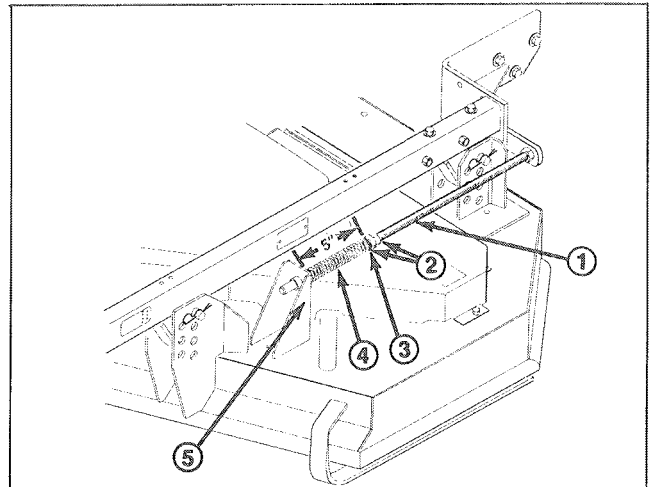

Figure 5
2. Thread (2) jam nuts onto each adjusting shaft (approximately 7 inches) (Fig. 5).
3. Slide a washer, spring and bushing onto each adjusting shaft. Bushing to be positioned so flange end is against spring (Fig. 5).
4. Insert spring end of each adjusting shaft into hole in deck mounting bracket and other end of shaft into hole in carrier frame mounting tab. Small end of bushing to fit into hole in deck bracket (Fig. 5).
5. To tension belt, tighten front jam nut on each adjusting shaft until springs are compressed to a length of 5", measured between washer and bushing (Fig. 5). Secure rear jam nuts.
The height-of-cut is adjustable from 1 to 4 inches (25 to 102 mm) in 1/2 inch (13 mm) increments by relocating four clevis pins in different hole locations in brackets at each corner of the cutting unit (Fig. 5).